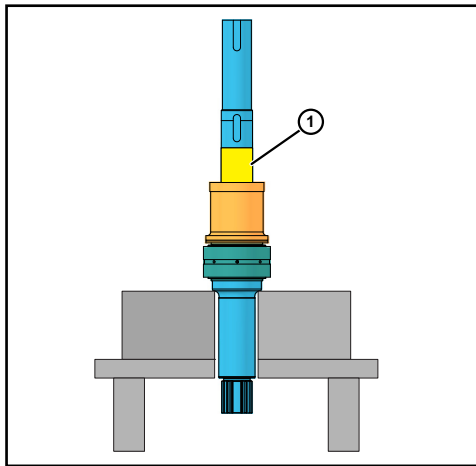

Figure 62 - Grease Shaft
5. Lubricate the shaft rear bearing area with grease (1), as shown in Figure 62.